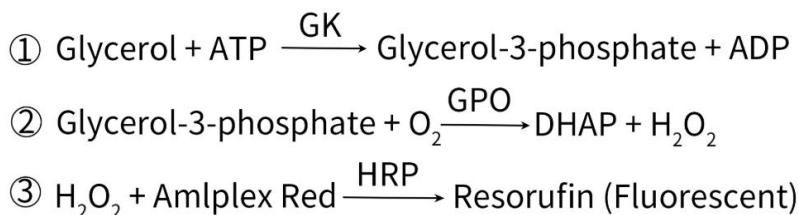

Figure 1. Schematic diagram of glycerol assay kit (ARG-100T) for detecting glycerol
The detection principle of this reagent kit is shown in Figure 1. In the presence of ATP, glycerol is phosphorylated by glycerol kinase (GK) to glycerol-3-phosphate. The generated glycerol-3-phosphate then undergoes an oxidation reaction with oxygen gas under the action of glycerol phosphate oxidase (GPO) to produce dihydroxyacetone phosphate (DHAP) and H_2O_2 . The content of glycerol is finally detected by detecting the fluorescence intensity or absorbance of the reaction product of H_2O_2 and Amplex Red, chlorpromazine. The fluorescence intensity and absorbance of test brine are directly proportional to the content of glycerol in the